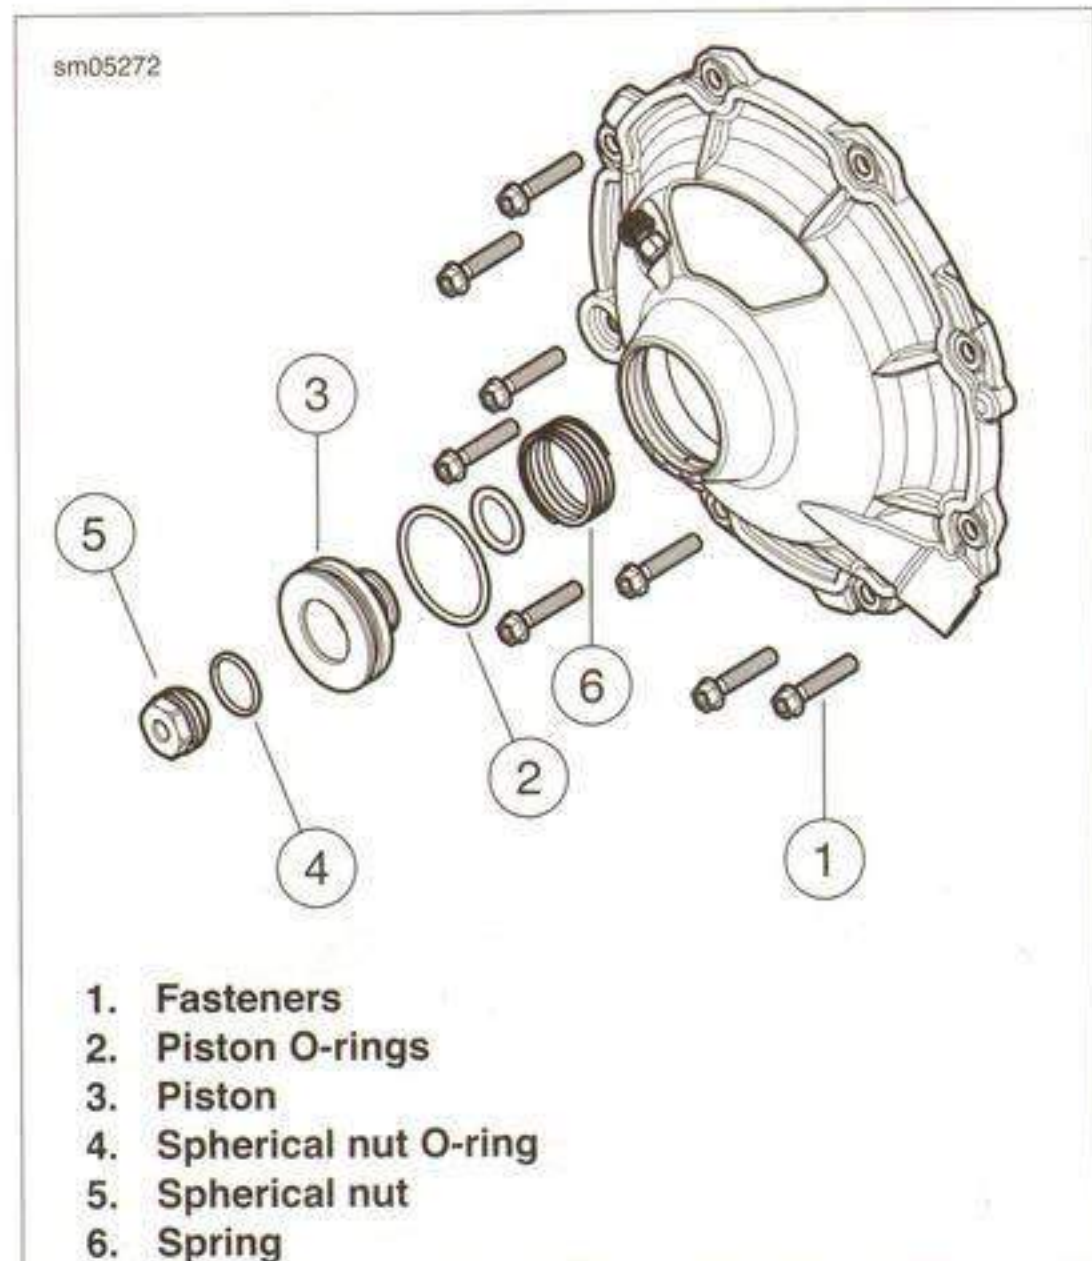

Figure 6-19. Secondary Clutch Actuator Cover Assembly
1. See Figure 6-19. Fit the secondary cover with the slot fastener opening and needle pin holes matching those on the clutch cover.
2. Install and finger tighten the cover fasteners (1).
3. Lubricate the two O-rings (2) and actuator piston (3) with D.O.T. 4 brake fluid.
4. Lubricate the O-ring (4) with D.O.T. 4 brake fluid.
6. Compress the spring (6) and hold the piston and thread spherical nut (5) onto the clutch release pin.